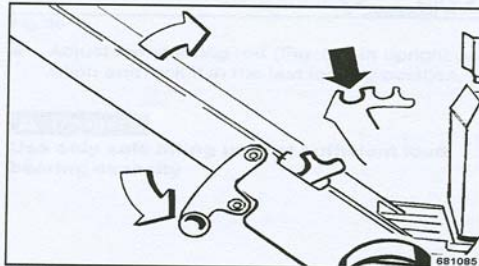

Fig. 25
- Lock the steering rod (Fig. 25) in the first locking position.